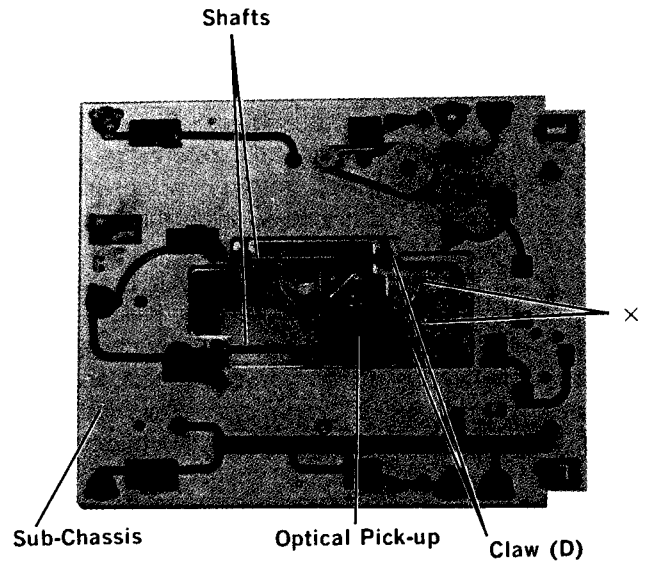

Figure 17 <17図>
- (2) While pressing two claws (D) in toward pull out two shafts in the arrow direction as shown in Figure 17.
- (2) Remove two screws marked "×" as shown in Figure 17.